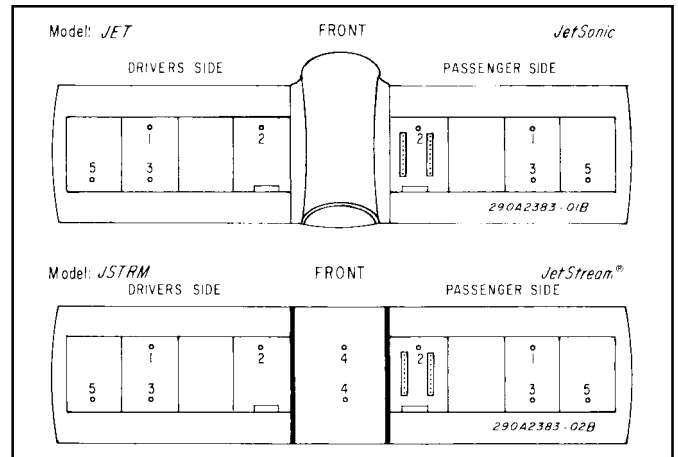

Figure 1.
2. Select the appropriate mounting location for the Model FK (see figure 1). Remove existing components (if applicable) and choose one of the following locations: